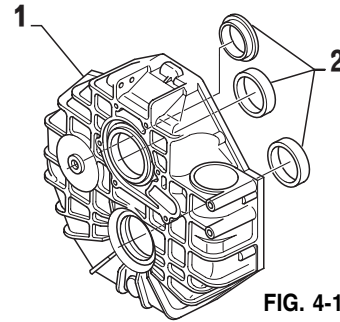

FIG. 4-1
Heat output half of the housing (item 1, Fig. 4-1) in an oven to approx. 120 °C (248 °F).
Insert outer races (item 2, Fig.4-1) into housing.